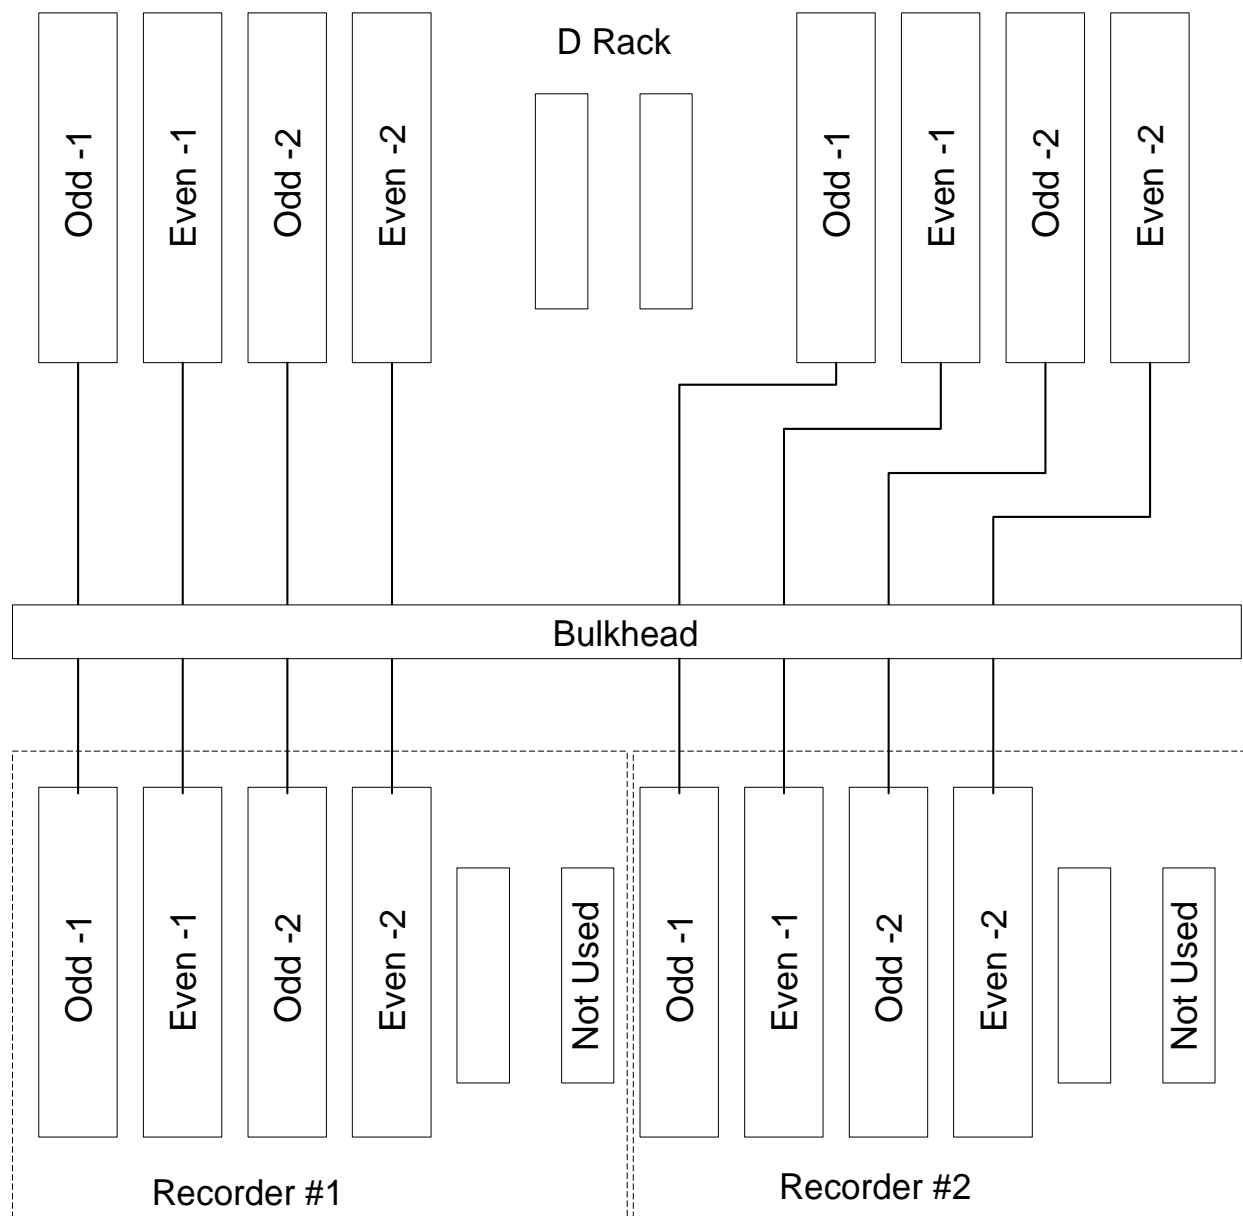

Figure 1. D Rack Cable Locations
2. Verify that there are eight 40-pin ribbon cables between the I/O panel and the bulkhead. Verify there are four cables between the bulkhead and each recorder. Verify the odd and even cables and pin #1 are located correctly. See figure 1.